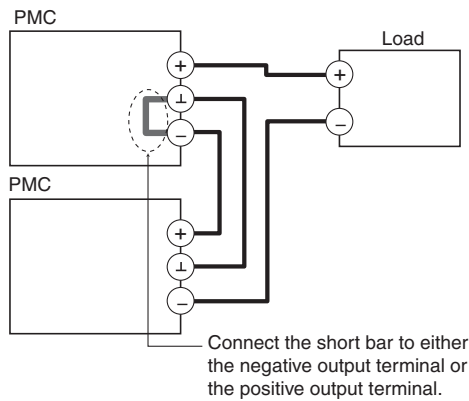

Fig. 4-4 Series Operation
4. Connect the power supplies as shown in Fig. 4-4.